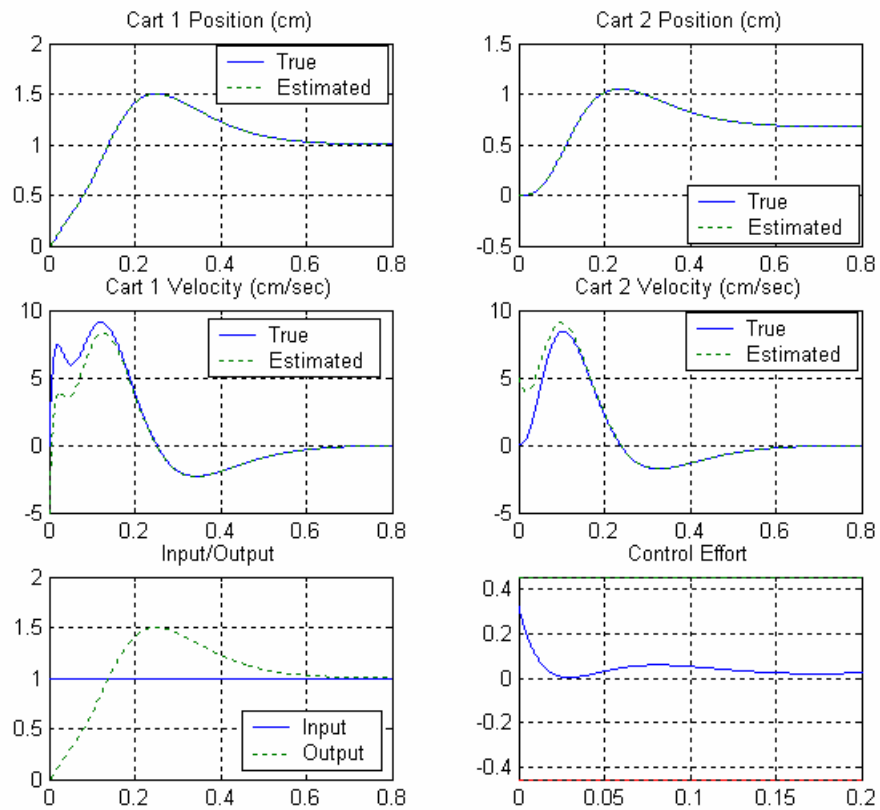

Figure 4. Results for 2a.
a) Implement (Simulink/Matlab) a minimum order state observer (not the transfer function) with state variable feedback for the two degree of freedom system on the web. Assume the position of both carts is known and the two velocities are unknown. We want to control the position of the first cart. Place the state feedback poles at $\mathbf{p} = [-15 \ -20 \ -25 \ -30]$ and the observer poles at $[-15 \ -20]$. The initial position and velocity of both carts are both zero. The initial estimated velocity of the first cart is -5 cm/sec and the initial estimated velocity of the second cart is 5 cm/sec. You should be sure to include a prefilter and rearrange the A, B, and C matrices. The unit step response is shown in Figure 4.